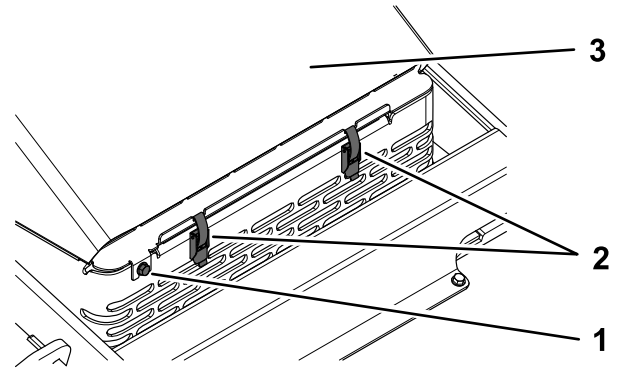

Figure 37
3. Loosen the hood-locking screw (Figure 37).
4. Hold the hood down and release the 2 latches (Figure 37).
5. Lift open the hood (Figure 37).
2. Tighten the hood-locking screw (Figure 37).